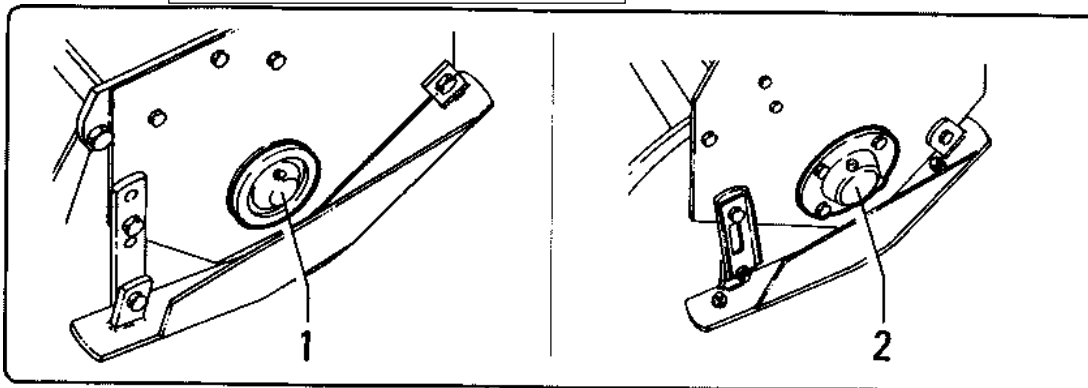

fig. 7.4.1
- Grease the right support "1" fig. 7.4.1 of the rotor or make sure that there is oil in the right support "2" fig. 7.4.1 (in versions with support in an oil bath).